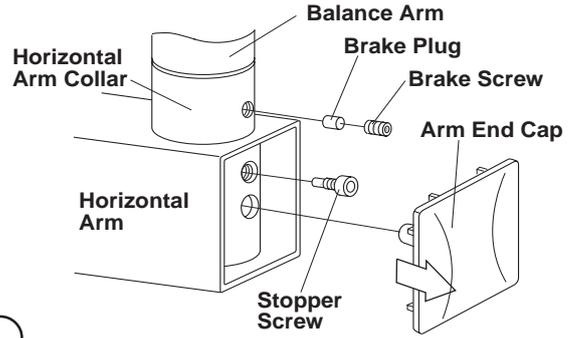

Fig.3-14 Attaching Balance Arm to Horizontal Arm
7. Insert the brake plug and brake screw (M6 x 6mm) into the horizontal arm collar. (Fig.3-14)
Replace the end cap. (Fig.3-14)